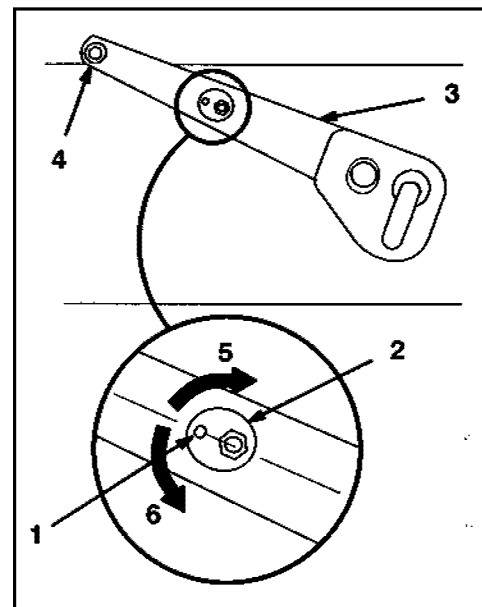

Figure 68
2. Loosen the cam nuts and equally rotate the left-hand and right-hand cams down to raise the front of the mower, or up to lower the front of the mower (Figure 68). Tighten the nuts. Repeat as necessary.